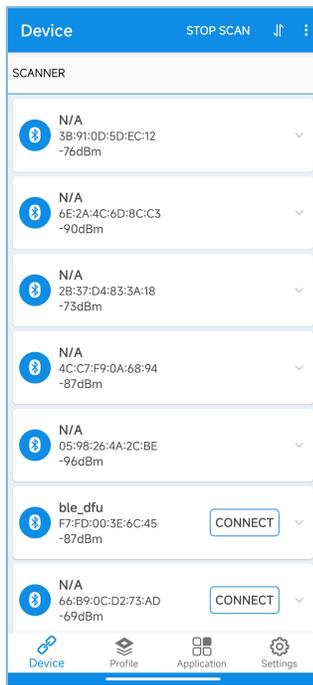

Figure 4-4 Selecting Goodix_Tem_DFU
1. Start GRToolbox; select **Goodix_Tem_DFU** in the device list on the **Device** interface and establish connection (Figure 4-4).